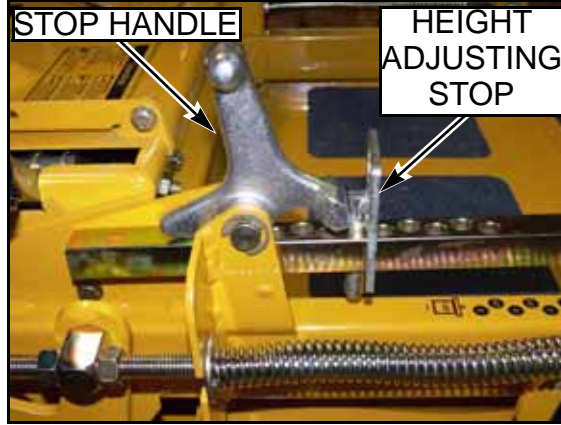

FIG. 34
4. Set cutting height at 3-1/2" in the height indicator by placing the height adjusting stop in the 3-1/2" hole, and turning the height stop so that the pin side is against the stop handle "FIG. 34"
5. Clamp the height adjusting stop against the stop handle "FIG. 34". This will assure that the height will not move during the setting process. Otherwise, spring pressure from the deck lift springs will tend to pull the stop away from the handle.